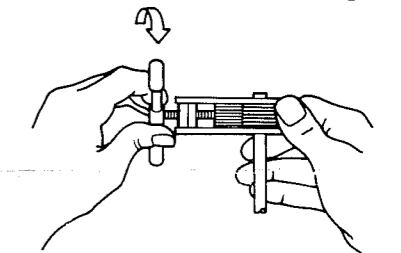

Fig. 2
4. Tighten the clamp screw approximately 1/2 to 3/4 of a turn beyond free travel position to secure tubing. (See Fig. 2.)